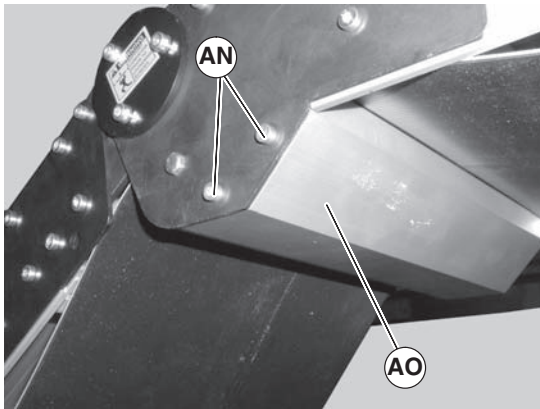

Figure 77
- Remove screws (Figure 77, item AN) on both sides of knuckle and remove guard (AO).